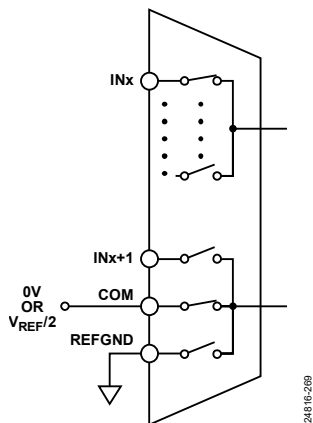

Figure 67. Channel Configuration Option B
- Figure 67, IN0 to IN15 paired with COM